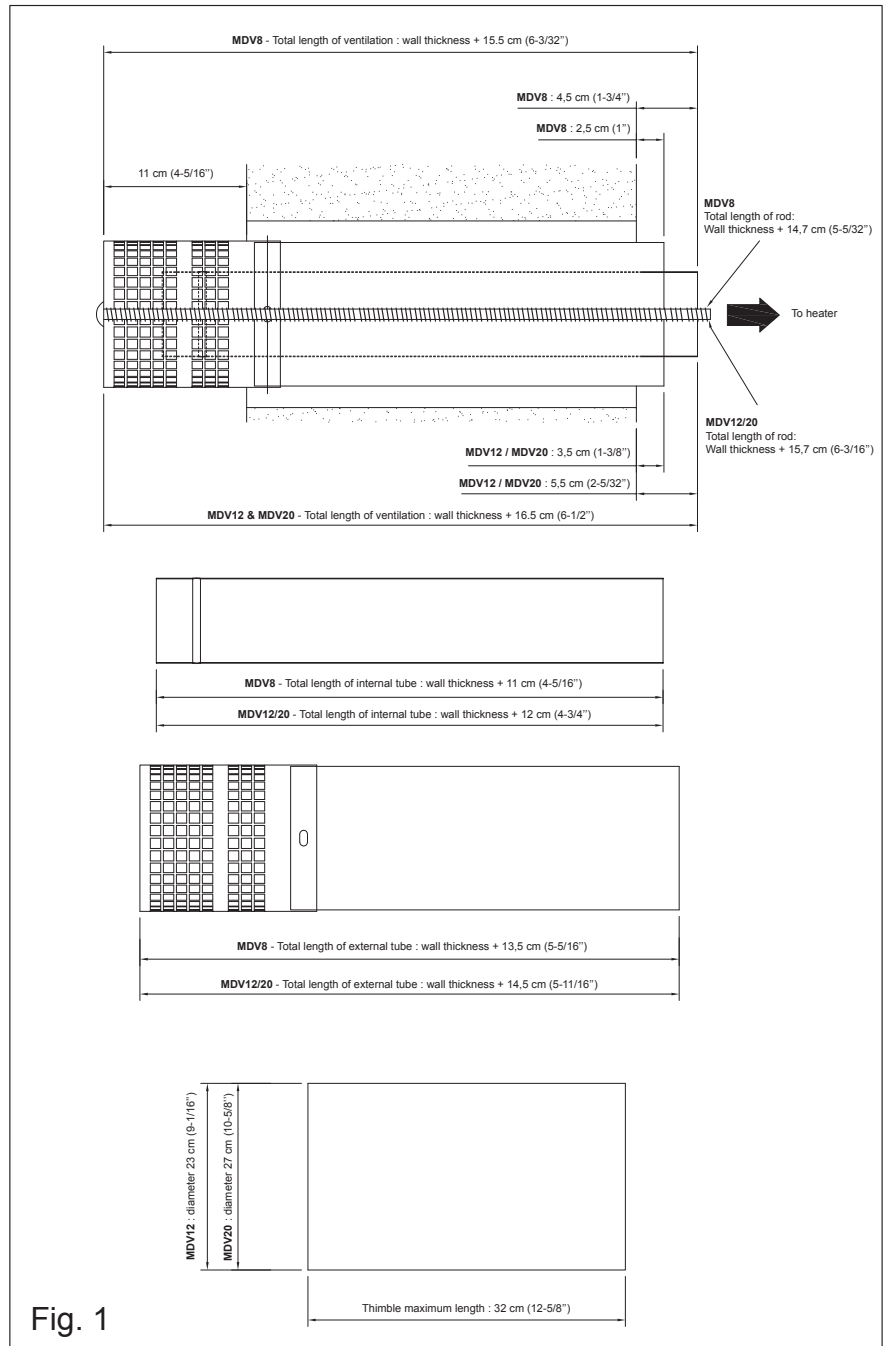

Fig. 1
- Tube lengths and threaded mounting rod should be trimmed to comply to the dimensions as shown in figure 1.